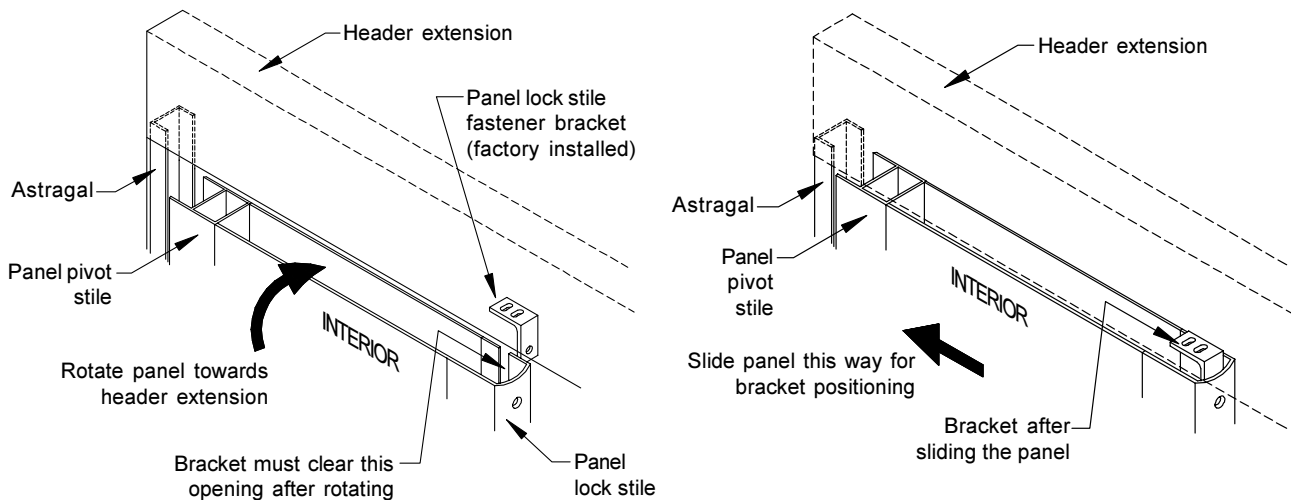

Figure 19. Panel Positioning and Attachment
2. Remove fixed panel from its carton. Lift panel and place bottom rail (factory prepped stile and rail) onto bottom side guide with four (4) drilled holes at bottom of panel facing interior side of opening. Swing upright, clearing lock stile fastener bracket with slot machined in lock stile of panel (**Figure 19**). Slide panel towards jamb tube and install screws from screw bag.